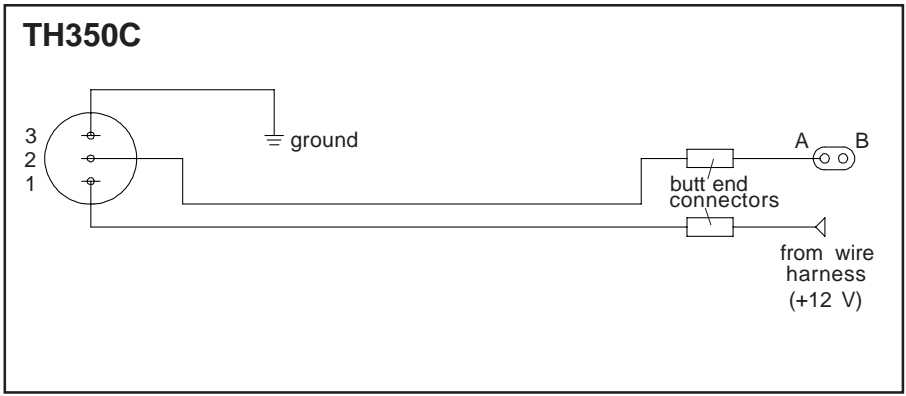

Figure 3
**STEP 5.** Onto the remaining wire install two spade connectors. Attach these connectors to the terminals marked #1 and #2 on the switch. If there is no existing hole in the firewall or floorboard of the vehicle, drill a 5/16" hole. Feed the two long wires through the supplied rubber grommet then through the 5/16" hole. Press the rubber grommet into place. Route wires to the transmission electrical connector. Cut the wires to length and connect them to the two butt connectors on the wire cut in step 2. **See Figure 3.** Make sure all wires are secured and properly connected.